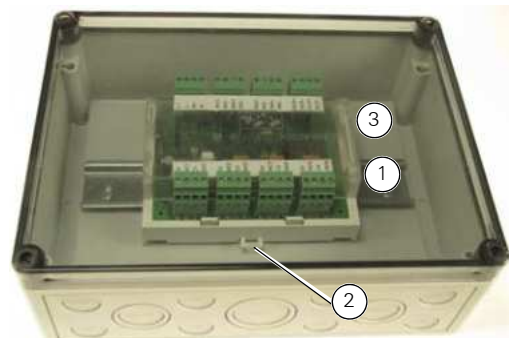

Fig. 2: FC4 10QIO Module fitted in the optional IP66 rated enclosure
A suitable enclosure can be ordered under part number 557.201.410. This is rated to IP66, and is supplied complete with a mounting plate (Item 3 in Figure 2) and a piece of DIN rail.
Snap the FC410QIO module onto the DIN rail with the release clip protruding. The complete assembly is as shown in Figure 2.
If you need to remove the module from the rail, pull the DIN rail release tab (item 2 in Figure 2).